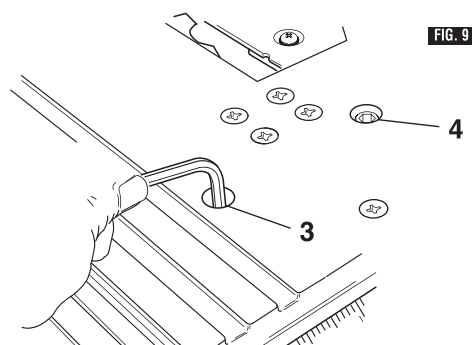

FIG. 9
4. If the blade is not at a 90° angle to the table, loosen the jam nut (underneath table) and turn the 90° adjusting socket head screw **3** (Fig. 9) left to reduce the angle or right to increase the angle.
4. If the blade is not at a 45° angle to the table, loosen the jam nut (underneath table) turn the 45° adjusting socket head screw **4** left to reduce the angle or right to increase the angle (Fig. 9).